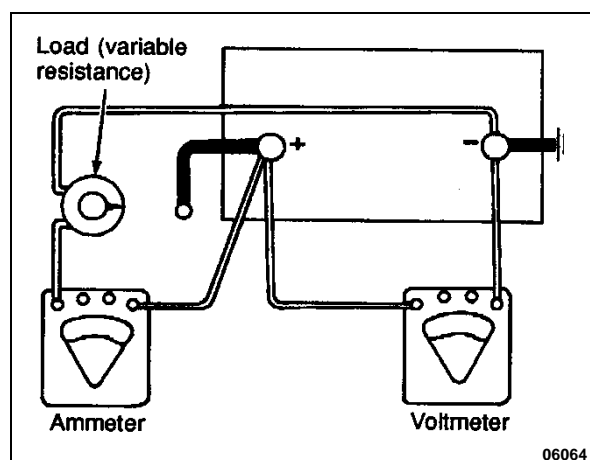

FIGURE 44: LOAD TEST
2. Connect a voltmeter, ammeter, and a variable load resistance as illustrated in Figure 44.